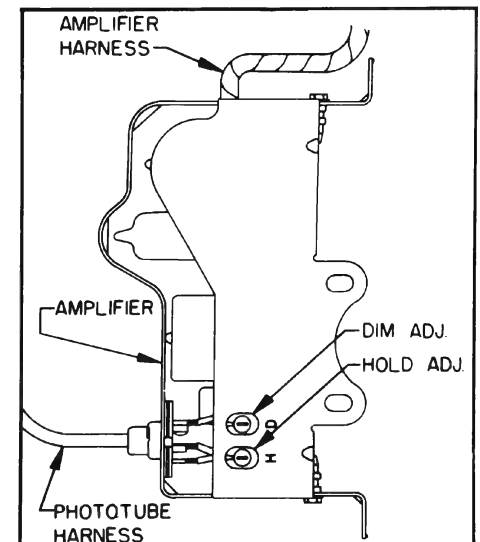

Figure 11-169—Amplifier Adjustments
(1) Hold and dim sensitivity controls are slotted for screwdriver adjustment and are located at the side of the amplifier unit. See Figure 11-169.
(2) Rotate the amplifier hold control completely clockwise.
(3) Rotate tester INTENSITY CONTROL all the way clockwise.
(4) Turn DIM-HOLD switch momentarily to DIM position to switch lights to lower beam, then switch back to HOLD position.